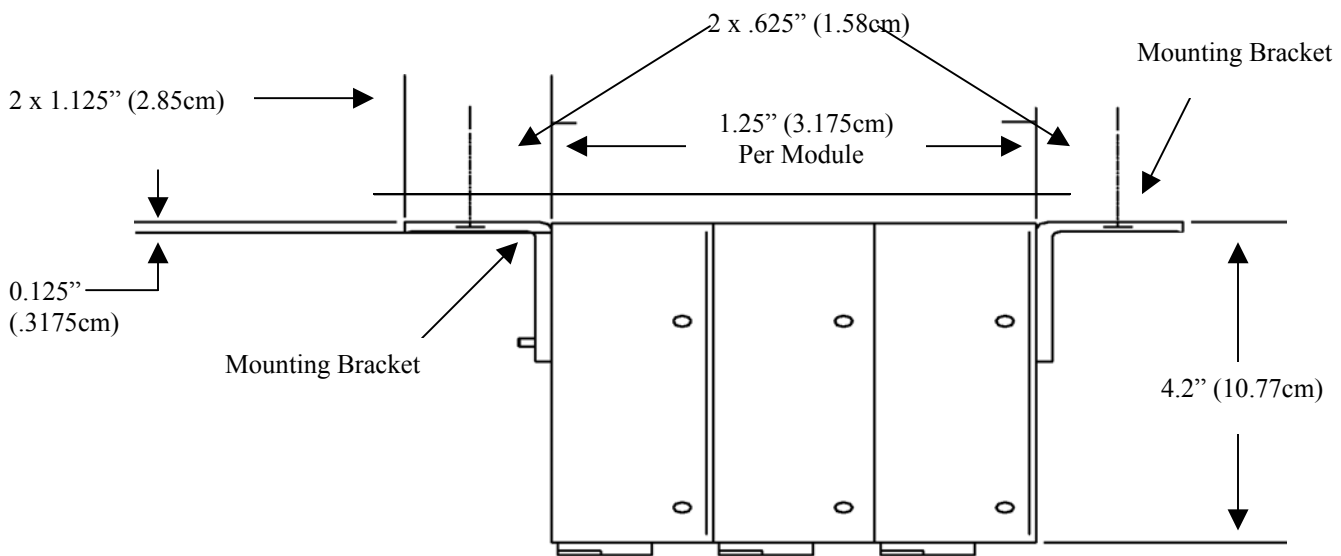

Figure 3.7: Nexus® Output Modules Mounting Diagram, Overhead View
- If multiple Output modules are connected together, as shown in Figure 3.7, secure a mounting bracket to both ends of the group. One Nexus® 1250/1252 meter will supply power for up to four Output modules. To connect more than four Output modules, use an additional power supply, such as the EIG PSIO. Connect multiple Output modules using the RS485 side ports. See Chapter 9 for additional information.